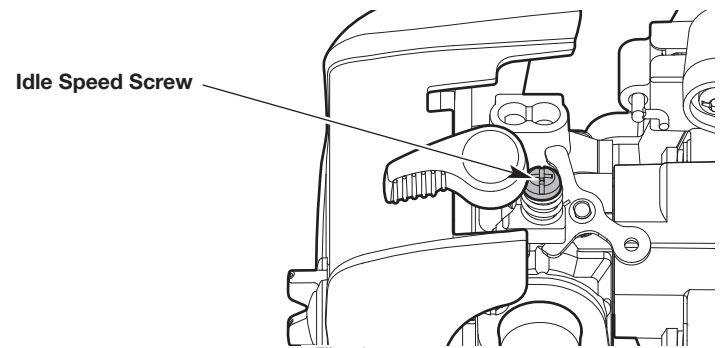

Fig. 35
- If the engine stops, increase the idle speed. Use a small Phillips screwdriver to turn the idle speed screw clockwise, 1/8 of a turn at a time, until the engine idles smoothly (Fig. 35).
- If the cutting head spins when the engine idles, reduce the idle speed. Turn the idle speed screw counterclockwise, 1/8 of a turn at a time, until the cutting head stops moving (Fig. 35).